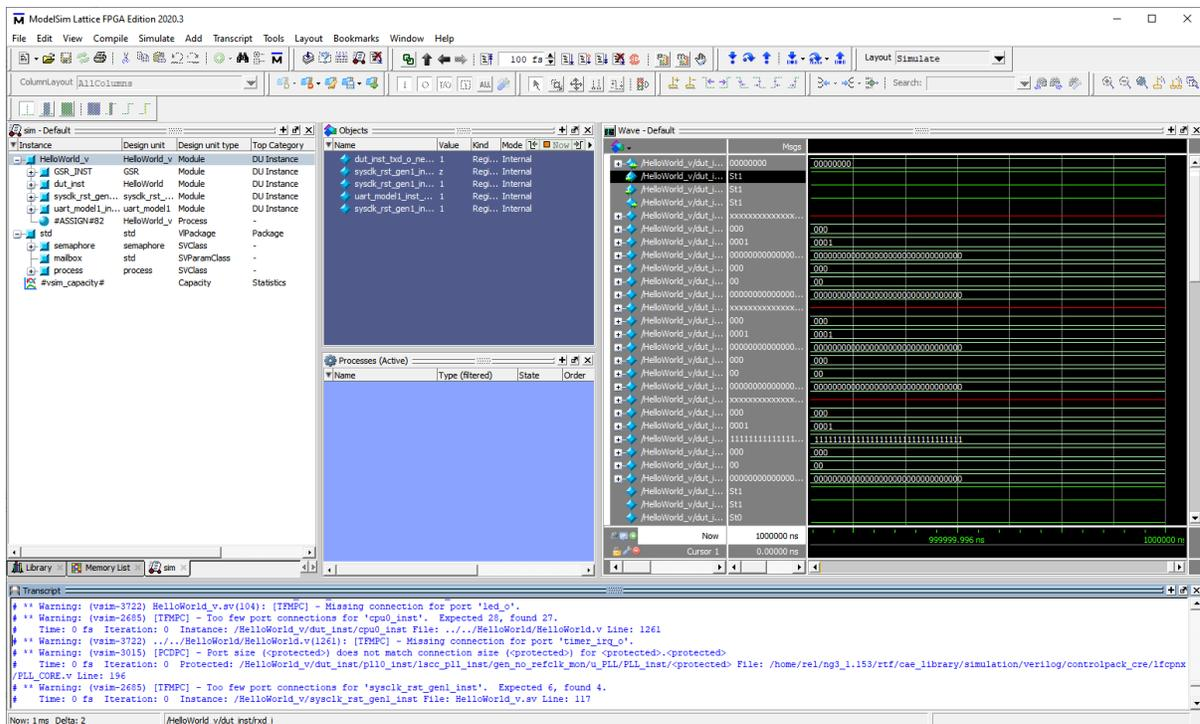

Figure 2.100. ModelSim Simulation GUI
2. The default simulation tool, ModelSim, OEM version, opens (Figure 2.100).